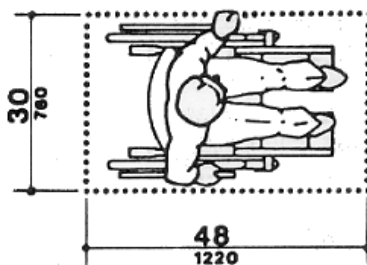
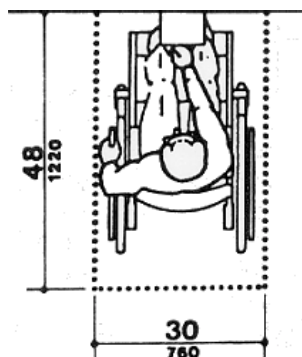

Figure 4a. Clear floor space.
Figure 4b. Forward approach.
4.2.4.1 Size and Approach. The minimum clear floor or ground space required to accommodate a single, stationary wheelchair and occupant is 30 inches by 48 inches (760 mm by 1220 mm) (see Fig. 4a). The minimum clear floor or ground space for wheelchairs may be positioned for forward or parallel approach to an object (see Fig. 4b and 4c). Clear floor or ground space for wheelchairs may be part of the knee space required under some objects.